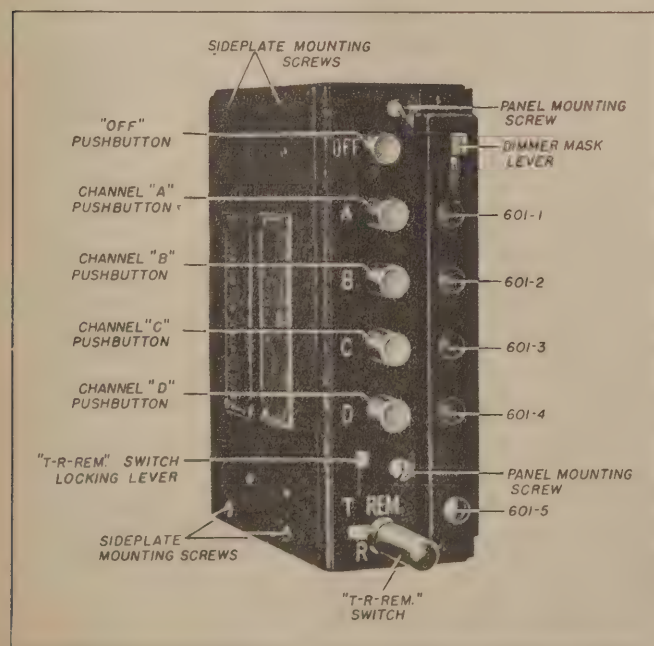

Figure 3-1. Radio Control Box BC-602-A or BC-602-B
a. To start the equipment, depress any one of the channel selector pushbuttons on the radio control box. (See fig. 3-1.) The lamp opposite the depressed pushbutton will light indicating the channel in operation. If the transmitter and receiver fail to operate when a channel pushbutton is pressed, press another channel pushbutton and then press the pushbutton for the desired channel.
(1) Depress channel selector pushbutton "A," "B," "C," or "D" on the radio control box, depending on which channel is to be used. (All the green jewelled lamps are lighted during channel selection.)
(2) Allow approximately one minute for the receiver tubes to warm up.
(3) Place the "T-R-REM." Switch on the radio control box (see fig. 3-1) at "T." (This places the transmitter in continuous operation.)
(4) Speak into the microphone. With the airplane in normal flight, check the operation of the transmitter by having a station or another airplane report on transmission.
(5) If the cockpit noise level is too high, turn the "GAIN" control slightly counterclockwise and have the pilot speak more loudly during transmission.